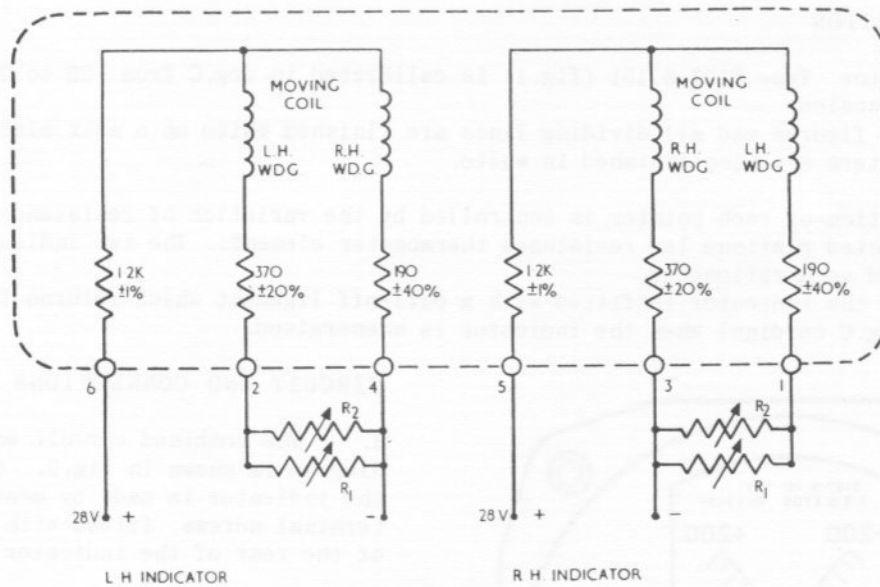

Fig.2 Circuit and test circuit diagram
8. Set the resistance boxes to be used as R1 and R2 to 121 ohms and 16152 ohms respectively, then connect the indicator to the test circuit shown in fig.2 for the left hand indicator.